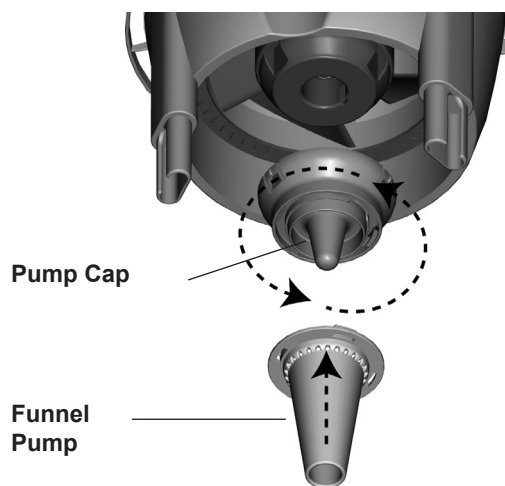

Figure 18a
- Assemble the Pump Cap and the Funnel Pump by aligning the arrows on both components and inserting the Funnel Pump into the Pump Cap. Twist the Funnel Pump counter-clockwise until the two components snap together. See figures 18a and 18b.